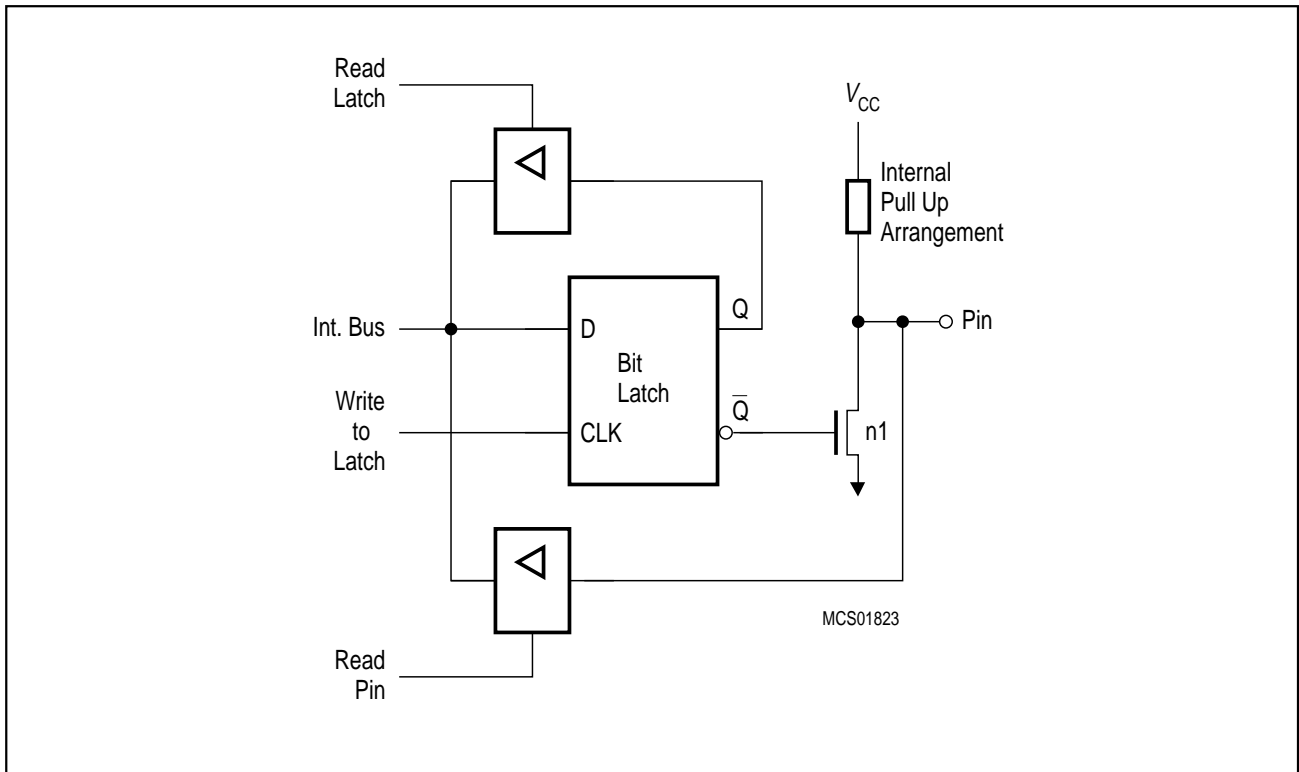

Figure 6-2
The output drivers of port 1 to 5 have internal pullup FET's (see **figure 6-2**). Each I/O line can be used independently as an input or output. To be used as an input, the port bit stored in the bit latch must contain a one (1) (that means for **figure 6-2**: $\bar{Q}=0$), which turns off the output driver FET n1. Then, for ports 1 to 5 the pin is pulled high by the internal pullups, but can be pulled low by an external source. When externally pulled low the port pins source current (I_{IL} or I_{TL}). For this reason these ports are called "quasi-bidirectional".
In fact, the pullups mentioned before and included in **figure 6-2, 6-4** and **6-5** are pullup arrangements.